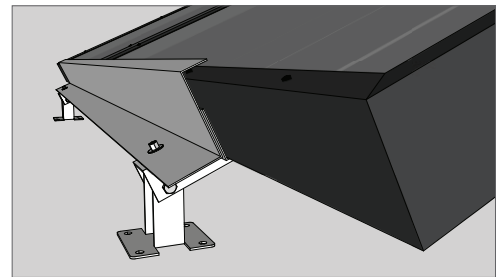
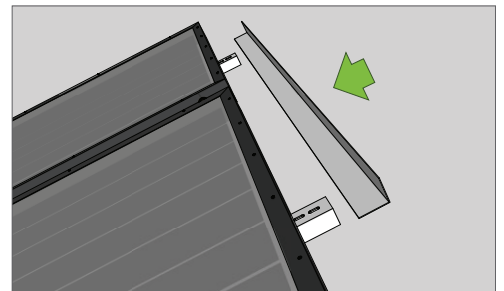

Fig 6
Fig 7
7. Mount flat plate panel/s on frame (Fig 6) ensuring 2nd L-support is placed underneath top of panel/s for support as shown in fig 7.